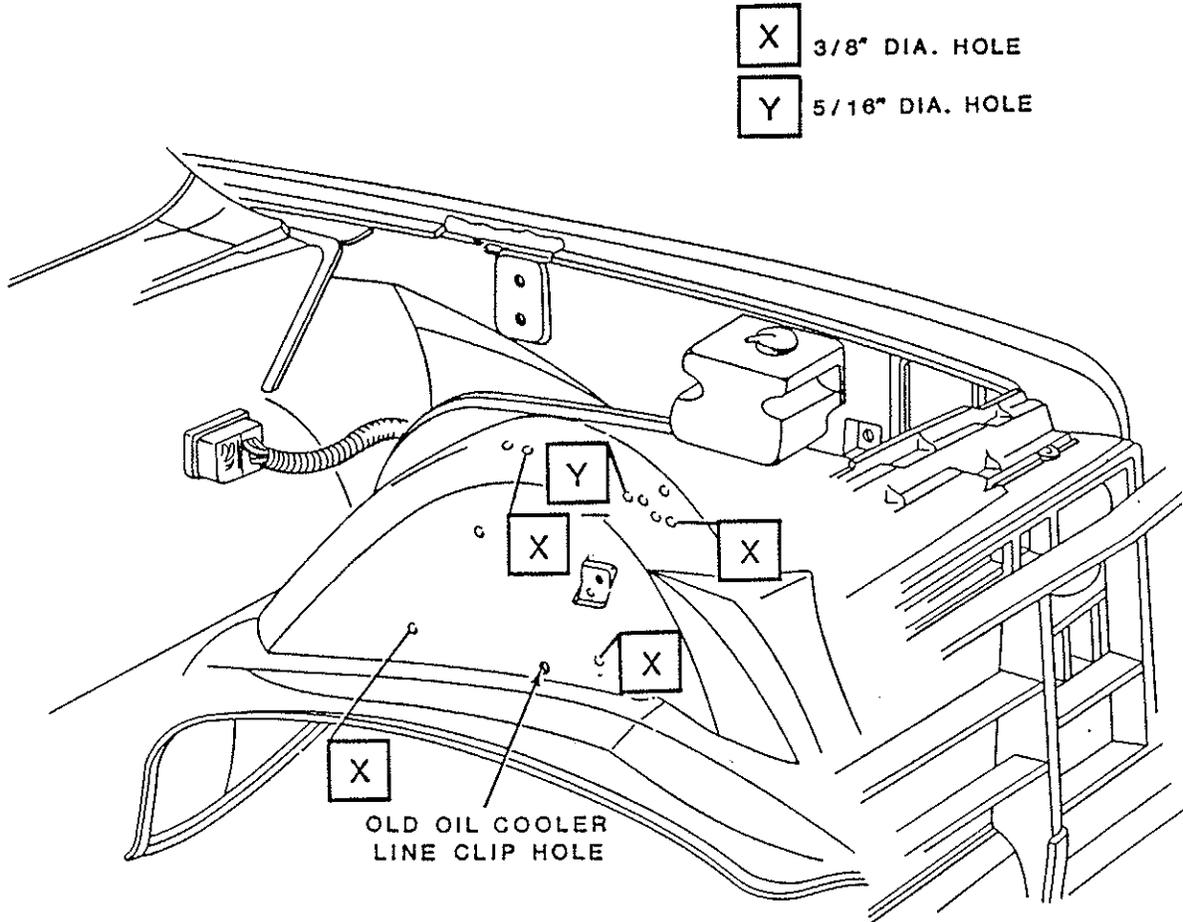

Figure 8.
65. Locate and drill 3/8 inch holes X, and 5/16 inch holes Y, in left fender skirt in prepunched depressions (Figure 8.).